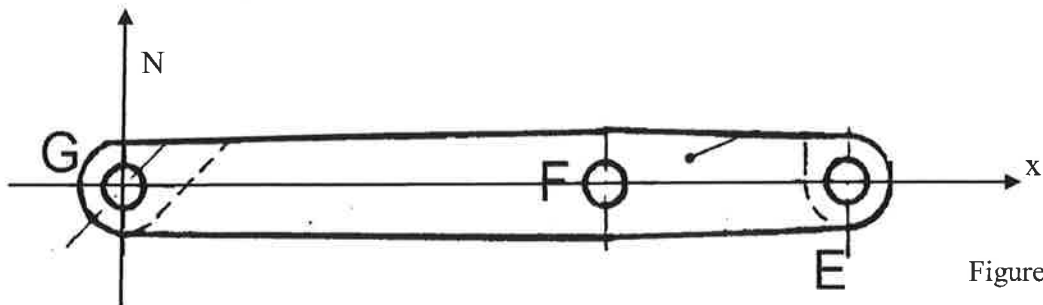

Figure 3-2
- C2. Represent on Figs. 3-2, 3-3 & 3-4 below, the variation of the normal force $N(x)$, that of the shear force $T(x)$ and that of the moment of bending $M(x)$ between G and E . (x defines the position of the cross section along GE)